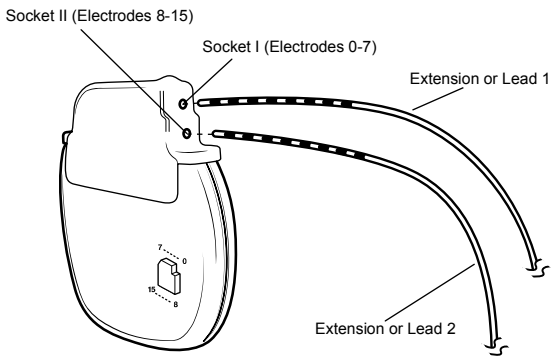

Figure 1. Insert the extension or lead connector pins fully into the neurostimulator.
3. Insert the appropriate extension or lead connector pins into the appropriate neurostimulator socket until they are seated fully within the connector block (Figure 1).